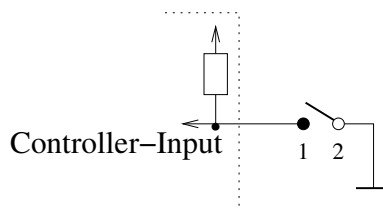

Figure 2.12: Attaching a switch to an input pin with activated pull-up resistor.
It can occur quite frequently that an input pin is not driven by hardware all the time, most notably when using simple mechanical switches, like DIP switches or buttons. Here, the input pin is connected to a defined value as long as the switch is closed, but left *floating* (that is, unconnected and at an undefined voltage level) whenever the switch is open. Since floating pins are A Bad Thing (they are very prone to noise!), a pull resistor must be used to set the pin to a defined level while the switch is open, see Figure 2.12 for an example.
There is another interesting thing to note in Figure 2.12: Due to the pull-up resistor, whenever the switch is closed, current flows from the controller via the input pin to the external ground. Without a pull resistor, there would not be any notable current flow from or to the controller pin, since the
**Exercise 2.3.5** In Figure 2.12, we have connected the switch directly to the controller pin without any current limiting resistor in series with the switch. Was this wise? Even if the controller can handle the current, what reasons might a hardware designer have to put in a resistor anyway?